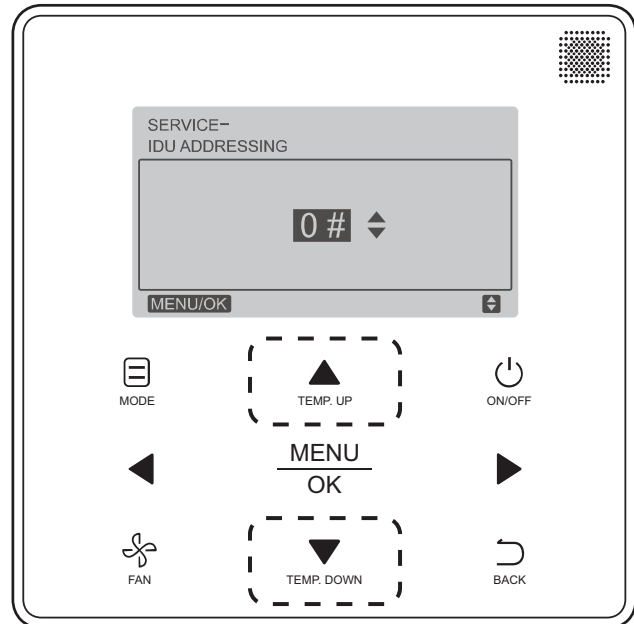

Fig. 48 —Programmable Controller Setting IDU Address
3. Press **TEMP. UP** or **TEMP. DOWN** to choose the address you want to set. See Fig. 48. Press **MENU/OK** to send this address to the IDU.